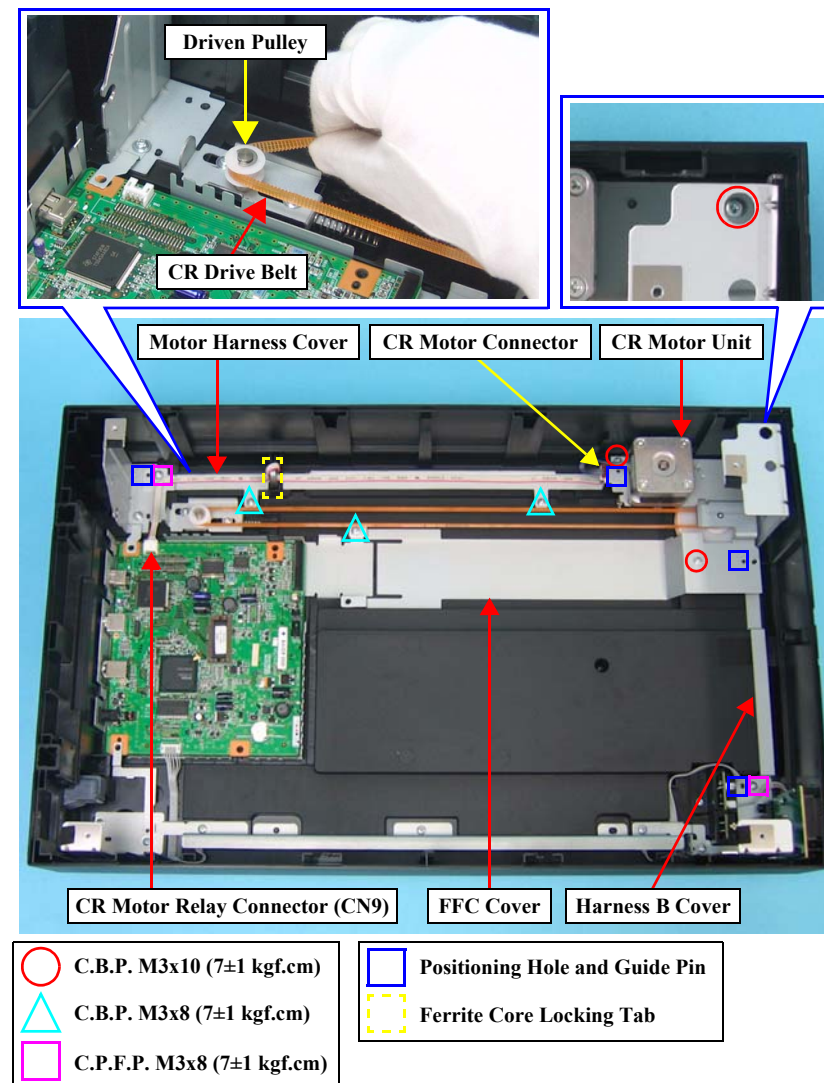

Figure 4-27. Removing the CR Motor Unit
- When installing the following unit and parts, match the positioning holes and guide pins as shown in Figure 4-27 on page 50.
- Make sure to secure the Ferrite Core attached to the Motor Harness with the Ferrite Core Locking Tab shown in Figure 4-27 on page 50.